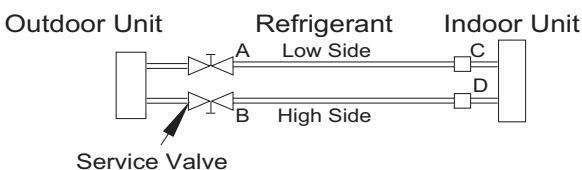

Fig. 19 — Service Valve
1. Completely tighten flare nuts A, B, C, D, connect the manifold gage charge hose to a charge port of the low side service valve (see Fig. 19).